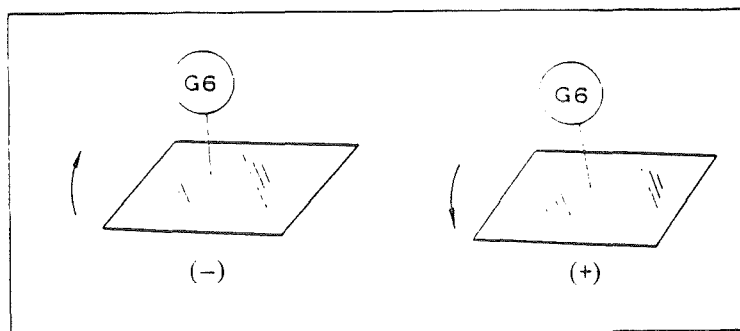

Fig. 37
- 1) If in 2-5, 3), the level difference is found over 0.5mm, raise or lower (G6) in the direction of the arrow, as shown in Fig. 37.